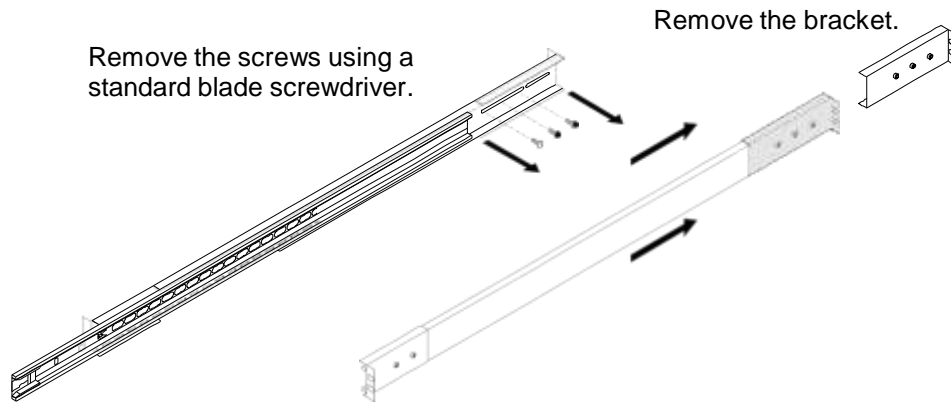

Figure 5-22 Removing the Long Bracket from the Slide Assembly
2. Each slide assembly long bracket has three screws that are used to secure the bracket. Use a standard blade screwdriver to remove the screws and then slide the bracket off the slide assembly. Refer to Figure 5-22. Repeat for the remaining slide assembly.